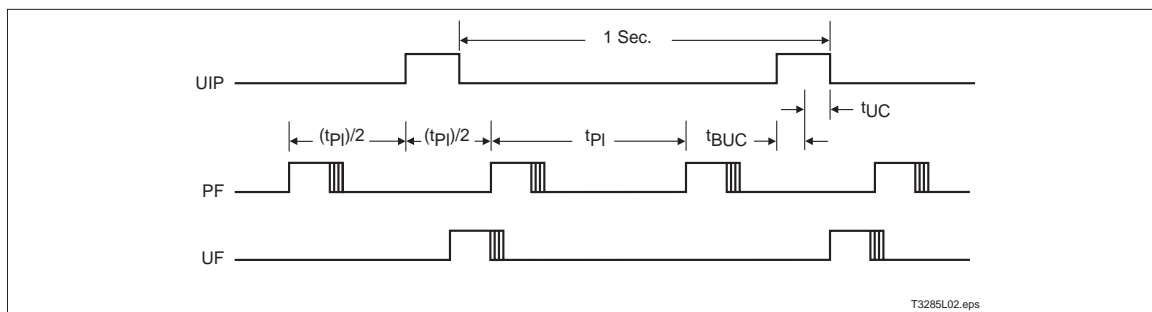

Figure 3. Update-Ended/Periodic Interrupt Relationship
- Enable the update interrupt event to generate interrupt requests at the end of the update cycle. The interrupt handler has a maximum of 999ms to access the clock bytes before the next update cycle begins (see Figure 3).
- Poll the update-in-progress bit (UIP) in register A. If  $UIP = 0$ , the polling routine has a minimum of  $t_{BUC}$  time to access the clock bytes (see Figure 3).
- Use the periodic interrupt event to generate interrupt requests every  $t_{PI}$  time, such that  $UIP = 1$  always occurs between the periodic interrupts. The interrupt handler has a minimum of  $t_{PI}/2 + t_{BUC}$  time to access the clock bytes (see Figure 3).